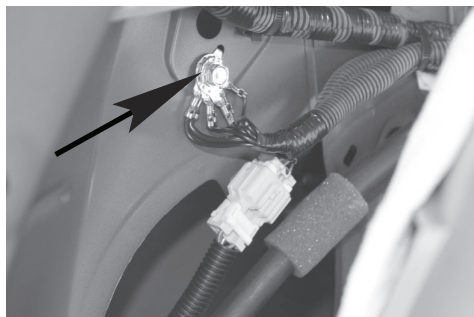

Figure 2
3. Starting on driver's side gently pull the plastic side panel away from the body to expose vehicle's taillight connectors shown in **Figure 2** taking care not to break locking tabs on panel. They will be similar to those on the RV harness. Repeat this step on the passenger side panel.
6. Using a 10mm socket remove the bolt holding the ground rings shown in **Figure 2**. Place the ring terminal on RV Harness with vehicle's ground rings and re-attach bolt.